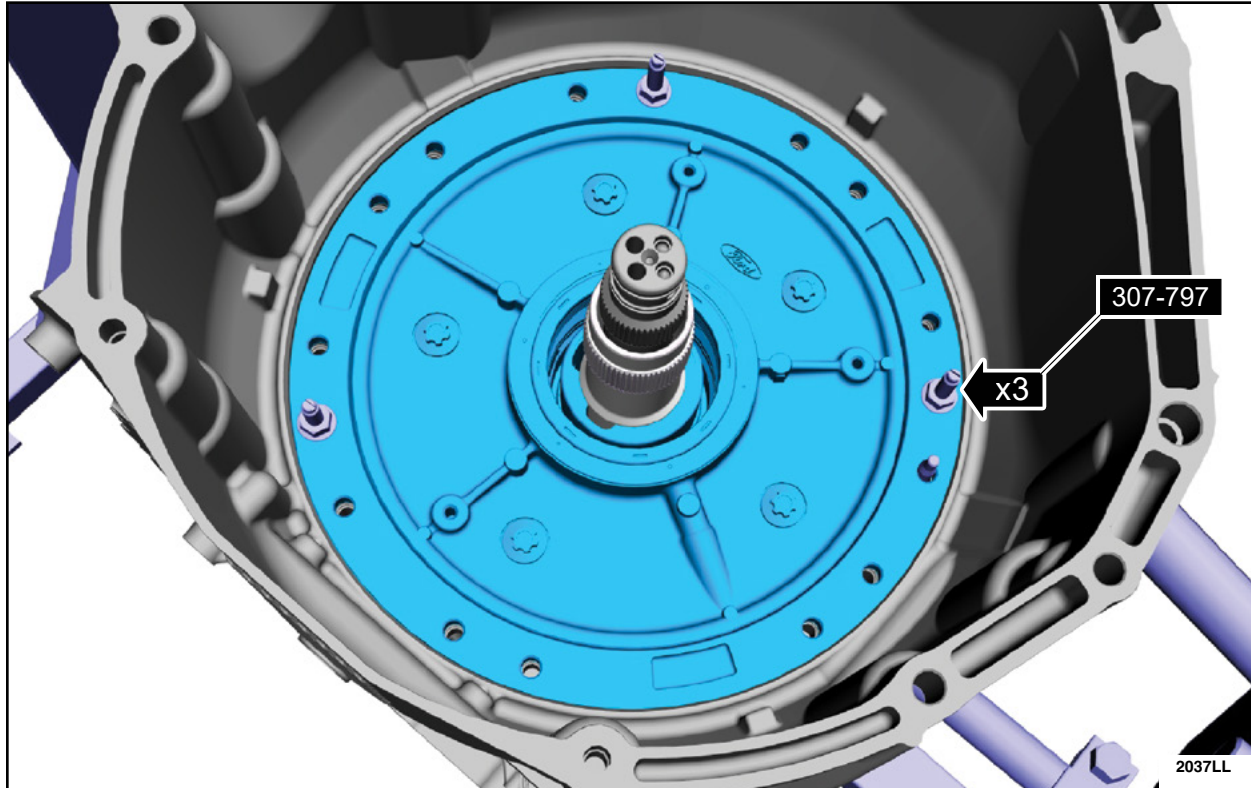

FIGURE 30
33. Install special tool 307-797 studs, washers and nuts in the location shown. See Figure 30.